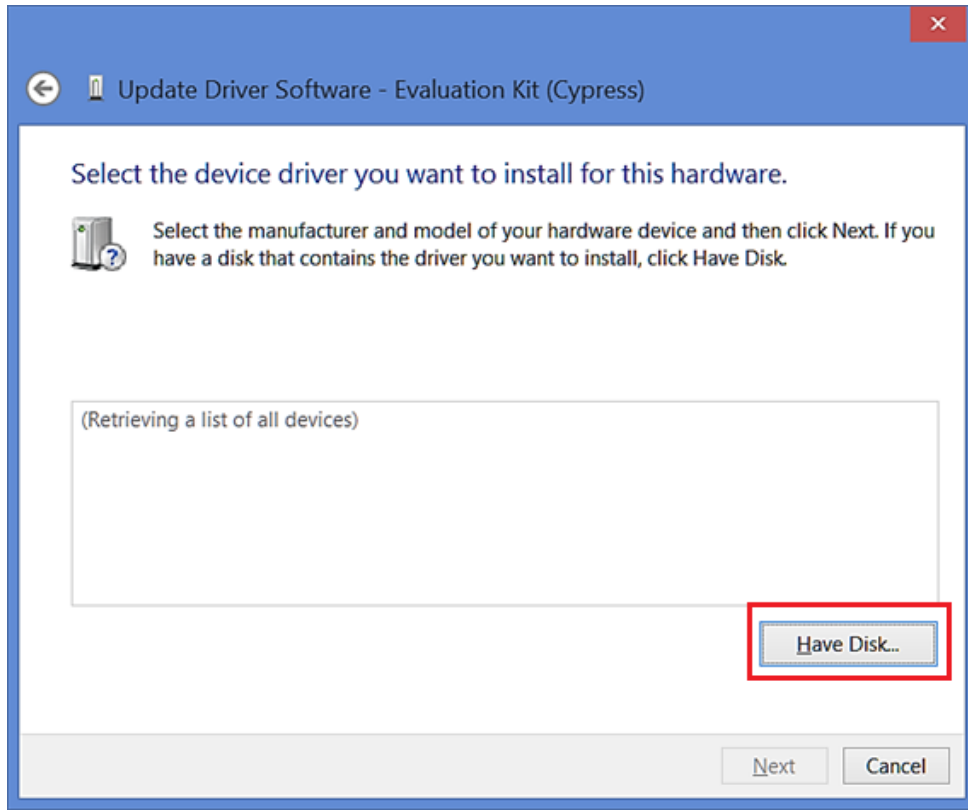

Figure 18. Update Driver Software - 4
7. Choose "Have Disk" (Figure 18)